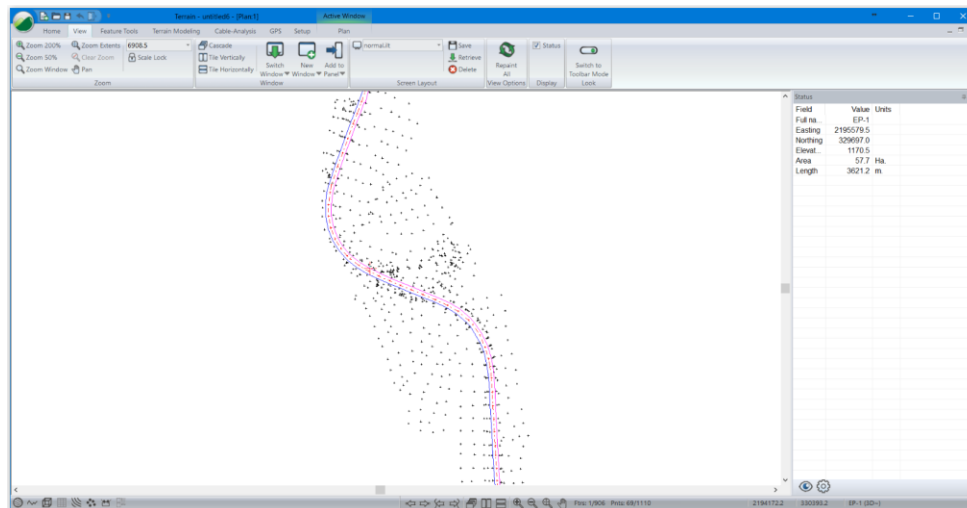

Figure 3-9: Plan Window after Importing Survey1.txt.
24. Select the *View | Screen Layouts | select training Normal.ilt* from the dropdown menu. This will set up your options and windows to look like the Figure 3-9.